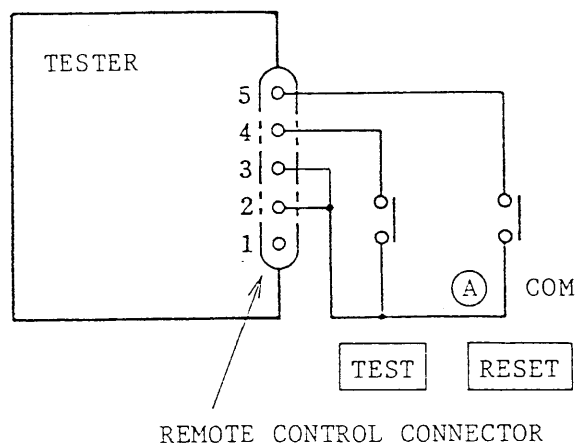

Figure 4.8
- (1) Because the instrument can operate by remote control, the pin No. 2 and No. 3 of connector must be externally connected.
- (2) By controlling the TEST and RESET contacts shown in Figure 4.8, the test voltage can be on/off-controlled in the same manner as done locally at the instrument front panel.
- (4) Logic elements (transistors, FET's, or photocouplers) may be used instead of the switches in Figure 4.8. The signal status for such operation is shown in Figure 4.10. The input conditions of this instrument for such operation are as follows:
- (5) As for the elements to be connected to the Tester, the use of photocouplers as shown in Figure 4.10 or relays as shown in Figure 4.8 would be advantageous from the viewpoint of preventing erroneous system operations which could be caused by noise. Although the Tester is incorporated with the various provisions to guard it against erroneous operations caused by noise generated